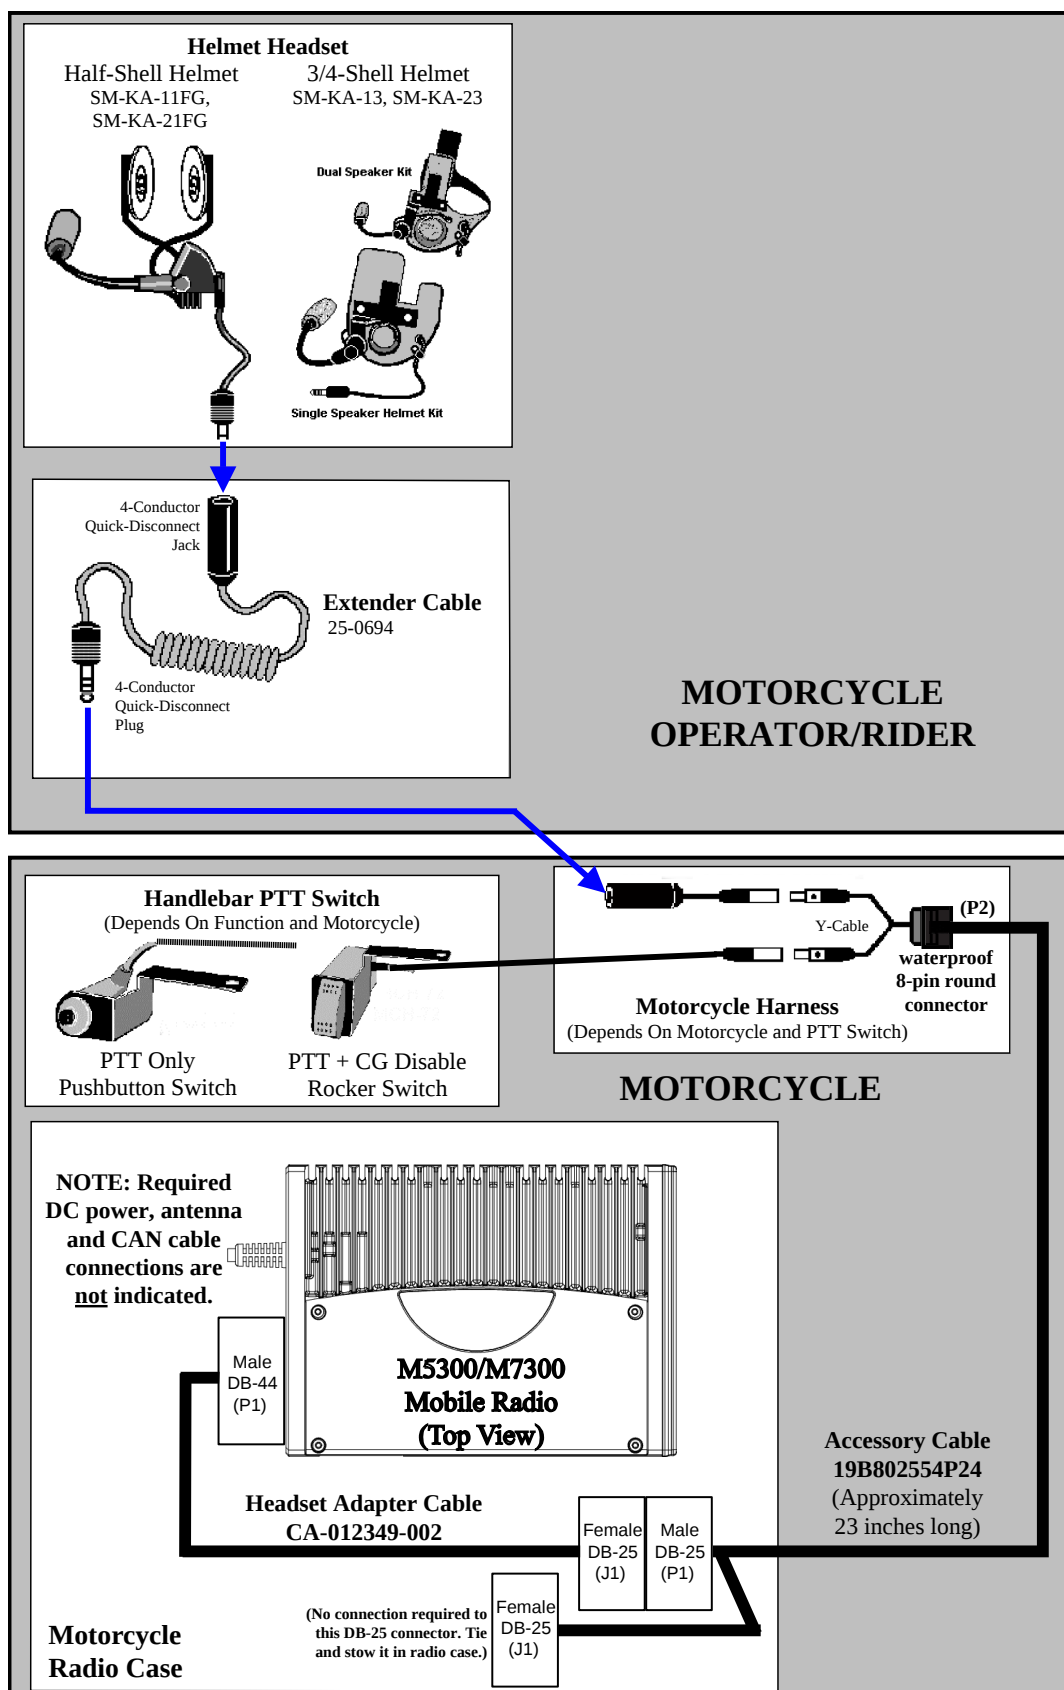
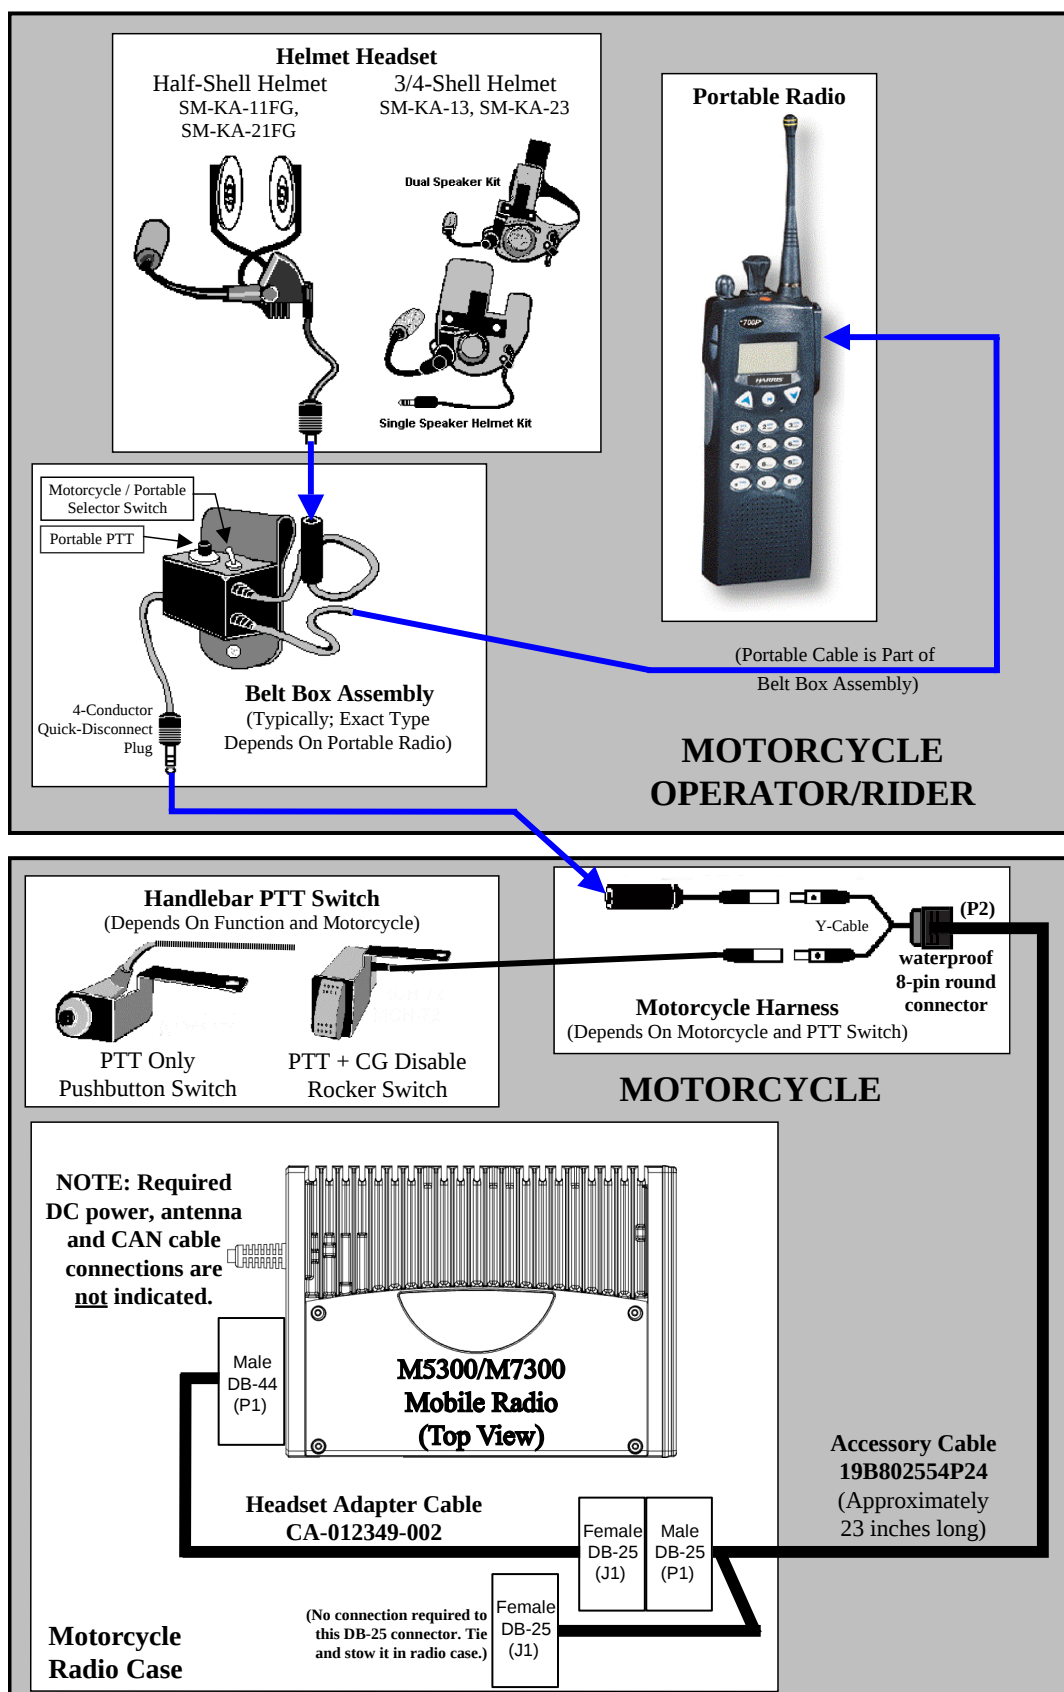

Figure 11-1: Headset-to-Mobile Radio Connection
Figure 11-2: Headset/Portable Radio-to-Mobile Radio Connection
2. As illustrated in Figure 11-1 on page 59, connect the male 44-pin D-subminiature (DB-44) connector of Headset Adapter Cable CA-012349-002 to the female DB-44 connector on the rear of the radio. Using a small flat-blade screwdriver, tighten the two (2) jackscrews securely.
3. Mate the male DB-25 connector of Accessory Cable 19B802554P24 to the female DB-25 connector of the Headset Adapter Cable. Tighten the two (2) jackscrews securely.
9. Connect the Y-cable's 8-pin connector to the 8-pin connector of Accessory Cable 19B802554P24. Refer to Figure 11-1 as necessary.
11. As illustrated in Figure 11-1, use Extender Cable SM-25-0694 (or equivalent) to connect the headset to the Y-cable.
2. As illustrated in Figure 11-2 on page 61, connect the male 44-pin D-subminiature (DB-44) connector of Headset Adapter Cable CA-012349-002 to the female DB-44 connector on the rear of the radio. Using a small flat-blade screwdriver, tighten the two (2) jackscrews securely.
9. Connect the Y-cable's 8-pin connector to the 8-pin connector of Accessory Cable 19B802554P24. Refer to Figure 11-2 as necessary.
12. As illustrated in Figure 11-2, connect the Belt Box to the Y-cable's 4-conductor quick-disconnect jack.
Accessory Cable 19B802554P24 is required when making headset and/or portable radio connections as described in Section 11 of this manual. As illustrated in Figure 11-1 (page 59) and Figure 11-2 (page 61), this cable's male DB-25 connector, identified P1, mates to the female DB-25 connector of Headset Adapter Cable CA-012349-002. The cable's round 8-pin waterproof connector, identified P2, mates to the motorcycle harness Y-cable. In non-M5300/M7300 applications, Accessory Cable 19B802554P24 also supports connections to an external siren and light system via its connector J1.